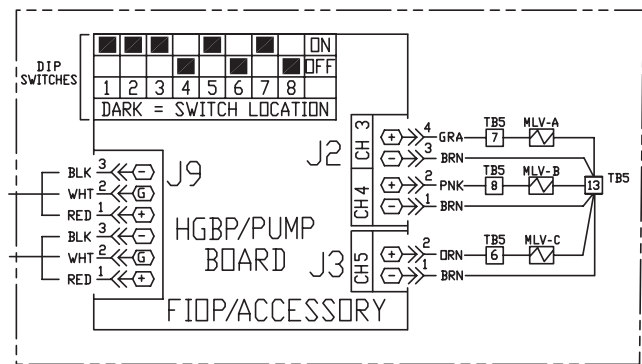

Fig. 5 — HGBP/Pump Board Address Switch and Wiring for Minimum Load Solenoid Output
3. Set the board address of the HGBP/Pump Board by positioning the dual in-line package (DIP) switches to the correct settings. See Fig. 5. Mount the HGBP/Pump board in the main control panel with the No. 8 screws provided (mounting standoff's required for 30XA080-120: 200 v, 230 v, 380 v and 30XA140-500: all voltages). See Fig. 6A and 6B for the board mounting location.
6. Using harness TH70400864 provided in the kit, connect TB5 pins 6 (30XA400-500 only), 7, 8, and 13 to HGBP/Pump board J2 CH3, CH4 and J3 CH5 (30XA400-500 only). Use the pins inside TB5. See Fig. 5.